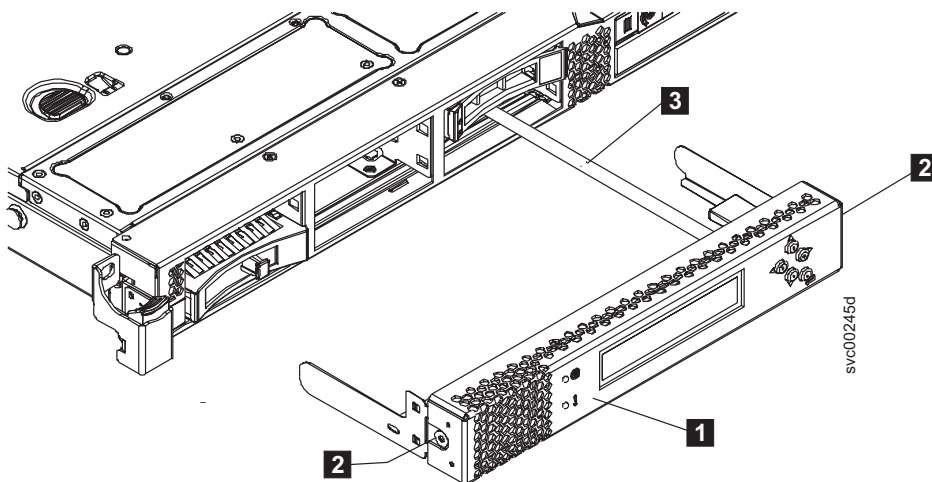

Figure 108. Service controller with attached USB cable (SAN Volume Controller 2145-CF8 shown)
5. If the service controller (**1** in Figure 108) is in place, press the release buttons (**2**) on each side of the service controller assembly to release the service controller from the node, but do not disconnect the USB service controller cable. Slide the service controller from the node and support it somewhere, if possible, or gently suspend the service controller from the service controller cable.